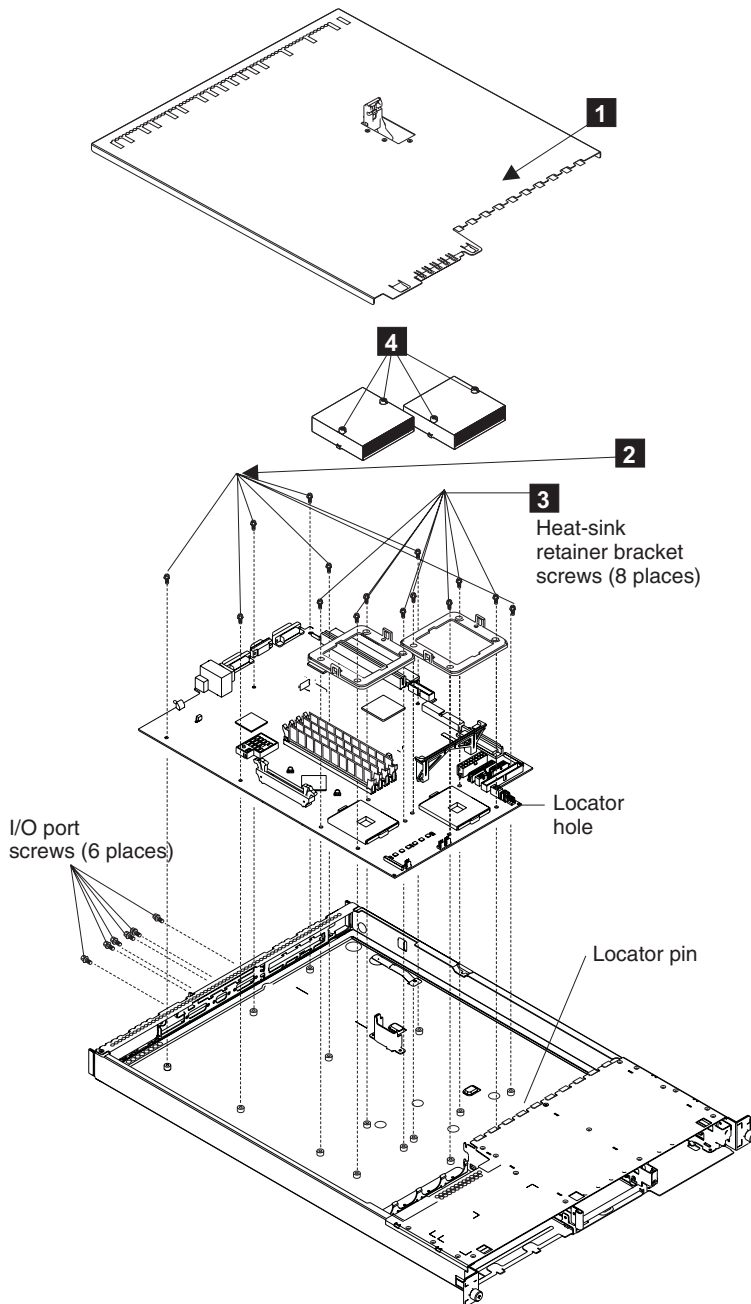

Figure 219. SAN Volume Controller 2145-4F2 system board
1. Replace the seven screws **2** shown in Figure 219 on page 236.
4. Replace the screws from each of the heat sink retainer brackets **3** shown in Figure 219 on page 236.